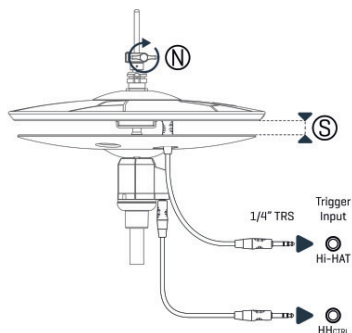

Figure 5
- 1 Lift the top cymbal gradually, until the carriage of the Hi-Hat Controller (O) stops following the movement.
- 2 In this position, fasten the clutch wing screw (N) as shown in *Figure 5*.